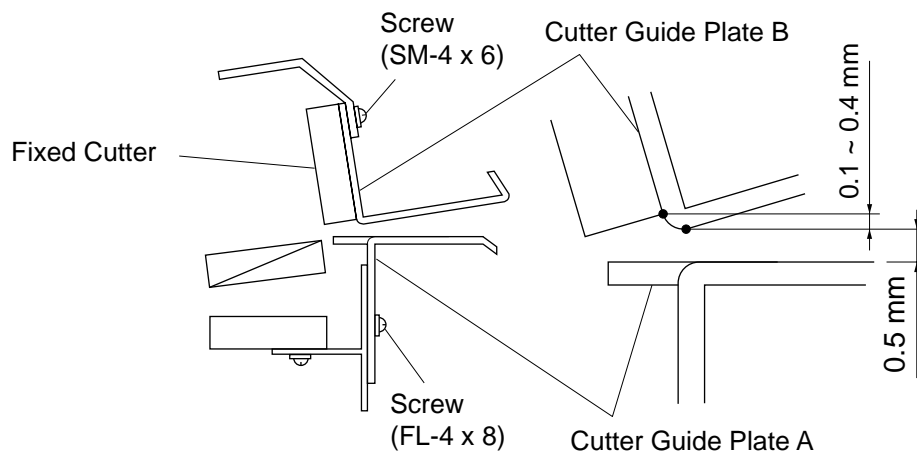

Fig. 3-5
- 4) Remove the operation panel (See Fig. 3-5)